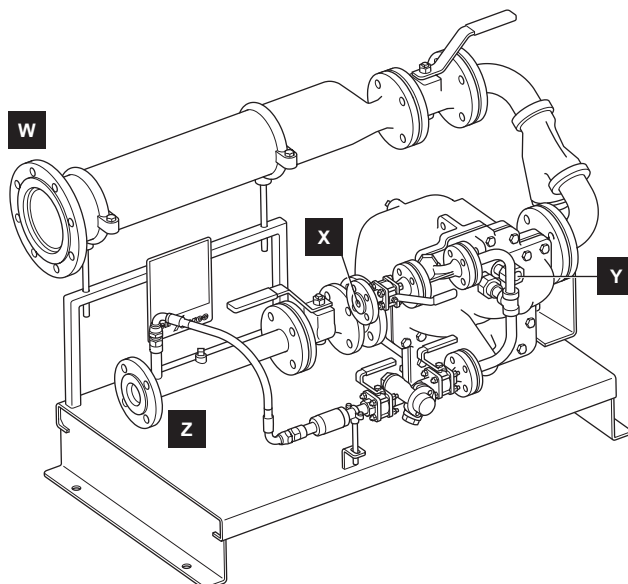

Fig. 1
3.3 Connections (refer to Figures 1 and 5)